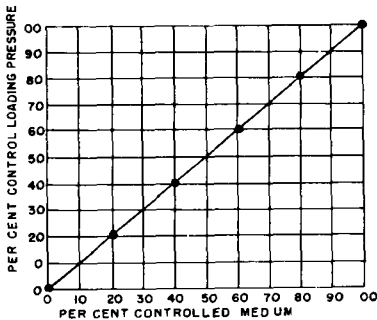

FIGURE 13 Desired Control
2. Decide upon the exact controlled medium vs. control loading pressure characteristic desired (see Figure 13).